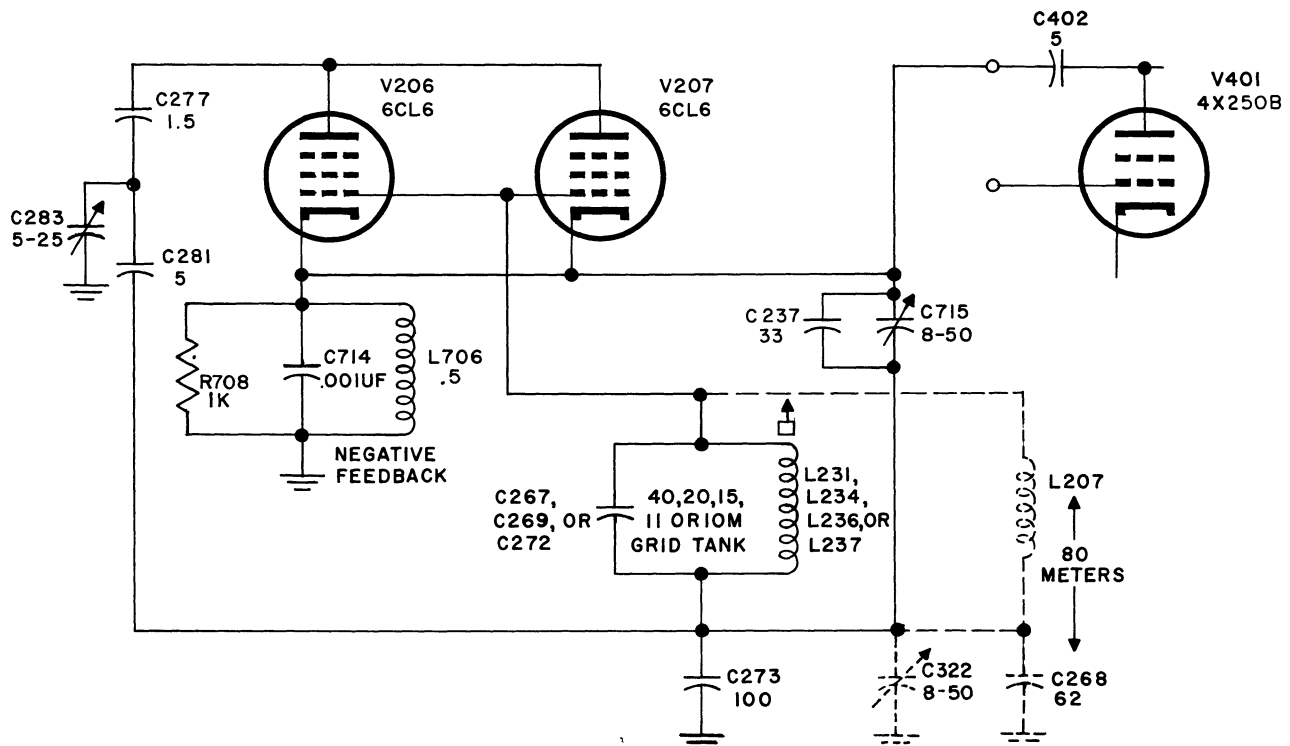
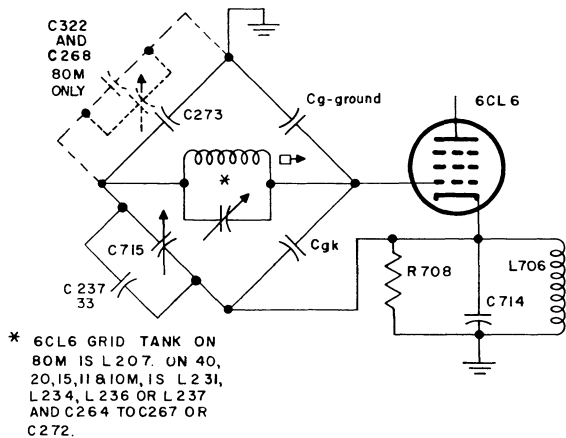

Figure 4-9. 6CL6 Driver Feedback and Grid-to-Cathode Neutralization Circuits, Simplified Schematic Diagram
Figure 4-10. 6CL6 Driver Grid-to-Cathode Neutralization Bridge Diagram
(1) NEGATIVE FEEDBACK. A portion of the power amplifier r-f output is fed back through C402 into the 6CL6 cathode circuit for the ultimate purpose of improving final amplifier stage linearity. (See figure 4-9.) At the 6CL6 cathodes, the feed-back circuit consists of R708, L706 and C714. The choke, L706, provides a d-c return for the cathode. R708 loads the choke to lower the circuit "Q", preventing oscillations which could be caused by L706 resonating at the feedback frequencies. C714 forms a capacitive voltage divider with C402 off the 4X250B plate to provide the proper value of feedback voltage which produces approximately 12 db of feed-back.
(a) 6CL6 GRID TO CATHODE NEUTRALIZATION. (See figures 4-9 and 4-10.) The cathode feedback voltage in the 6CL6 stages will appear on the grid tank circuits to cause stage oscillation, unless the feedback is neutralized. On the bridge diagram of figure 4-10, the feedback voltage is carried over from cathode to grid by the tube's internal grid-to-cathode (C_{gk}) capacitance. This capacitance forms a voltage divider with the
tube's grid-to-ground (Cgg) capacitance. The two capacitances, in series, comprise one side of the neutralization bridge. Neutralization is provided on the 40, 20, 15, 11 and 10-meter bands by condenser C715 and C273, which are in series and form a voltage divider from the 6CL6 cathode to ground. In this position, these capacitors form the other side of the neutralization bridge to balance out the undesired feedback voltage impressed across the Cgk and Cgg arms of the bridge. With the grid tank circuit across the midpoint of both bridge arms, the feedback is balanced out to eliminate this source of stage oscillations. The components of the bridge are shown on the simplified practical diagram of figure 4-9. On 80 meters only, C268 and C322 are placed in parallel to C273 to provide sufficient divider capacitance for neutralization at the 80-meter frequencies.